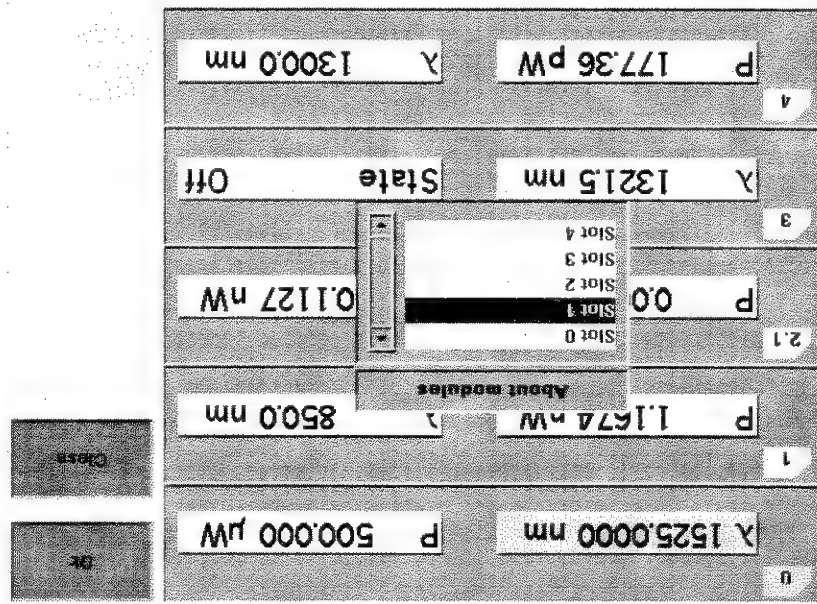

Figure 34 Slots with Installed Modules
- 2 Move to the <About Modules> menu option and press *Enter*. You see a box displaying the slots which have installed modules, see Figure 34.
- 5 Press [Close] to return to the menu in Figure 34.